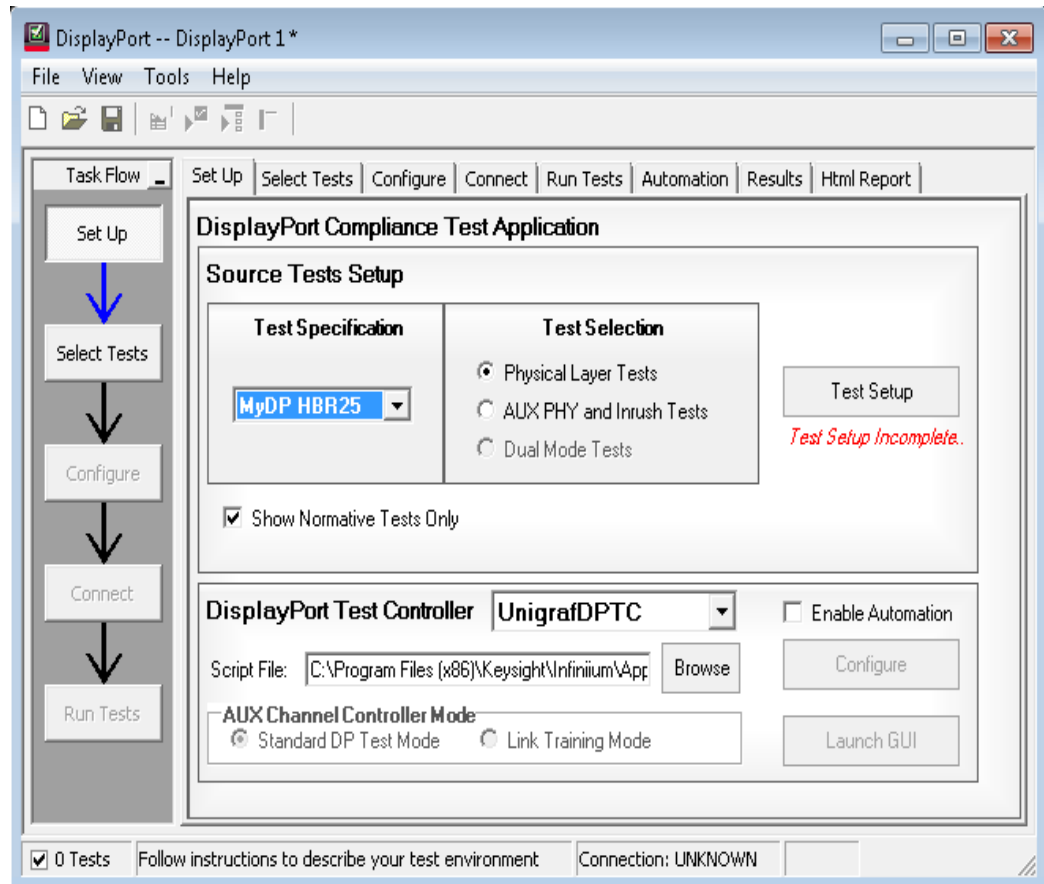

Figure 143 Set Up tab on the DisplayPort Compliance Test App
- 3 On the DisplayPort Compliance Test Application, click the **Set Up** tab (see Figure 143).